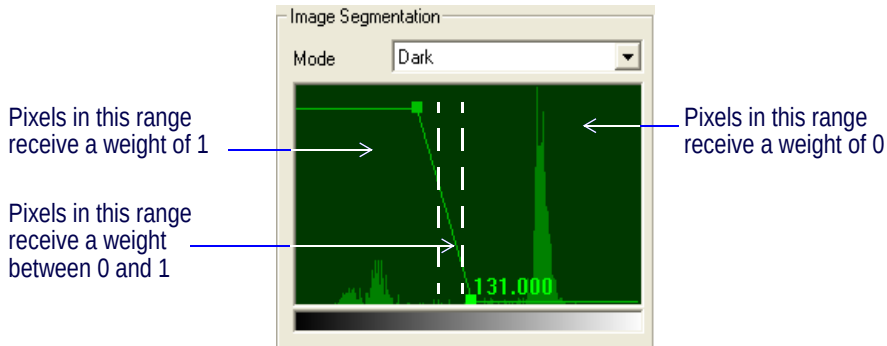

Figure 35 Image Segmentation Function Editor
3. Use the mouse to drag the handles in the graphic function editor. Set the Image Segmentation weight function as illustrated in Figure 35.